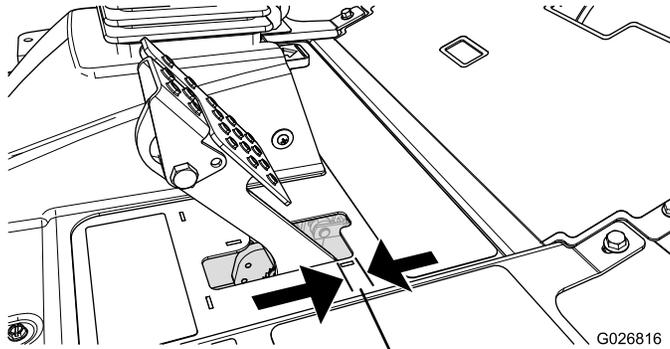

Figure 67
Adjust the brakes when there is more than 2.5 cm (1 inch) of free travel (Figure 67) of the brake pedal, or when more holding force is required. Free travel is the distance the brake pedal moves before you feel braking resistance.
2. Tighten the rear nut to move the cable backward until brake pedals have .63 to 1.27 cm (1/4 to 1/2 inch) of free travel (Figure 67), before wheel lock up is achieved.